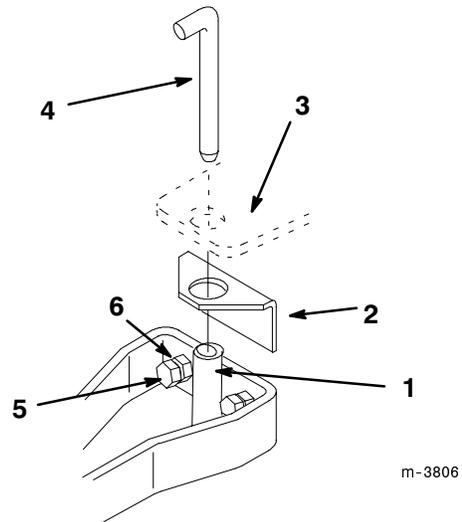

Figure 7
- Slide the stabilizer plate over the tube on the clevis hitch (Fig. 7).
- Align the hitch hole on the accessory with the hole in the stabilizer plate and insert the hitch pin (Fig. 7).
- Install the two 1/2-13 x 2 inch bolts with the jam nuts into the holes on either side of the hitch pin (Fig. 7).